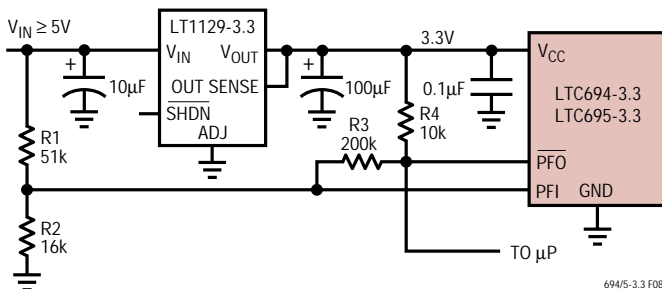

Figure 8. Monitoring *Unregulated* DC Supply with the LTC694-3.3/LTC695-3.3's Power-Fail Comparator
$\overline{\text{PFO}}$  goes low when the voltage at the PFI pin is less than 1.3V. Typically PFI is driven by an external voltage divider (R1 and R2 in Figures 8 and 9) which senses either an unregulated DC input or a regulated 3.3V output. The voltage divider ratio can be chosen such that the voltage at the PFI pin falls below 1.3V several milliseconds before the 3.3V supply falls below the maximum reset voltage threshold 3.0V.  $\overline{\text{PFO}}$  is normally used to interrupt the microprocessor to execute shutdown procedure between  $\overline{\text{PFO}}$  and  $\overline{\text{RESET}}$  or RESET.
The power-fail comparator, C3, does not have hysteresis. Hysteresis can be added however, by connecting a resistor between the  $\overline{\text{PFO}}$  output and the noninverting PFI input pin as shown in Figures 8 and 9. The upper and lower trip points in the comparator are established as follows:
**Example 1:** The circuit in Figure 8 demonstrates the use of the power-fail comparator to monitor the unregulated power supply input. Assuming the the rate of decay of the supply input  $V_{\text{IN}}$  is 100mV/ms and the total time to execute a shutdown procedure is 8ms. Also the noise of  $V_{\text{IN}}$  is 200mV. With these assumptions in mind, we can reasonably set  $V_L = 5V$  which is 1.6V greater than the sum of maximum reset voltage threshold and the dropout voltage of the LT1129-3.3 (3V + 0.4V) and  $V_{\text{HYSTERESIS}} = 850\text{mV}$ .